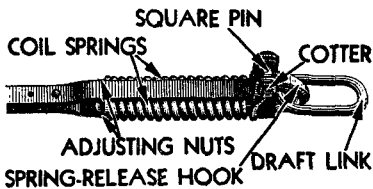

FIGURE 19—SPRING RELEASE
d. Cushion spring release hitch. The large coil springs (Figure 19) serve not only as a cushion for the load, but also as a safety feature. When a large rock or other obstruction is encountered by the plow, the coil springs in the hitch compress, releasing the draft link (Figure 20) and the plow becomes disconnected from the tractor. To re-attach plow to tractor, remove cotter from square pin. Remove square pin, put spring release hook in proper position, replace square pin and cotter. After removing obstruction causing disconnection of plow from prime mover, back up prime mover and attach draft link to drawbar.